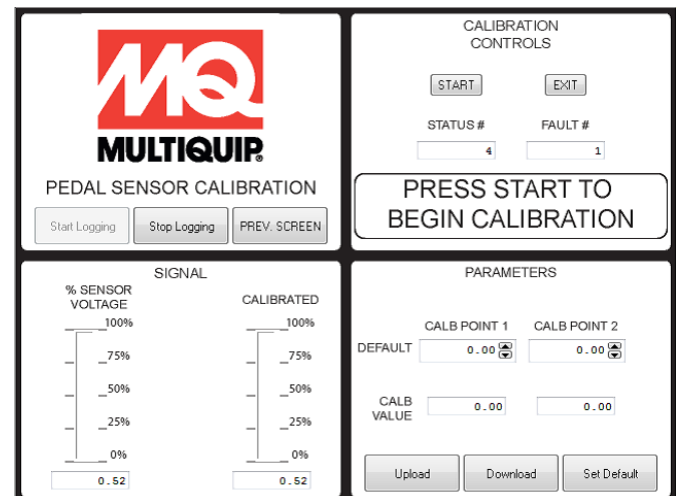

Figure 32. Start Pedal Sensor Calibration
- b. Read % Sensor Voltage (Figure 32).